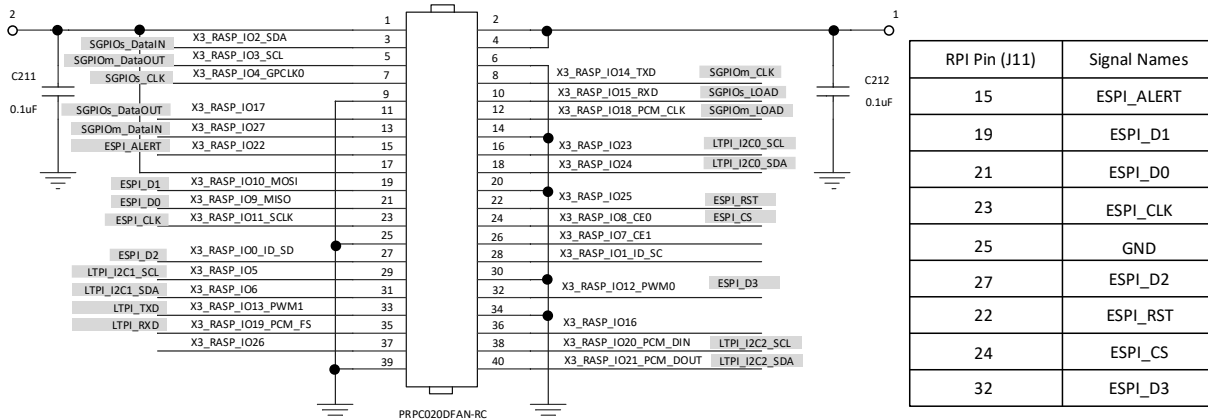

Figure 5.17. eSPI Pin Connection
1. Connect eSPI Controller to HPM hardware via RPI header (J11) as highlighted in yellow in Figure 5.17.